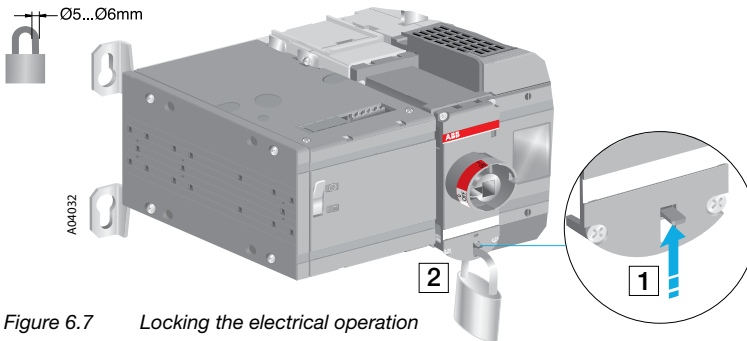

Figure 6.7 Locking the electrical operation
- Place the padlock under the latch, see Figure 6.7.